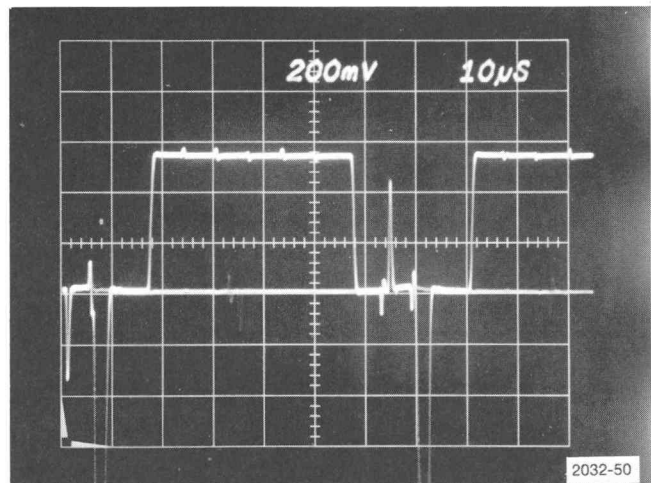
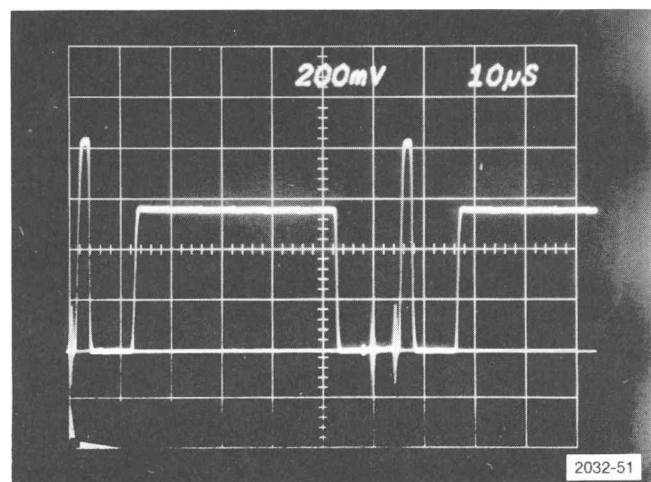

Fig. 4-20. 1420—Differential Gain setup.
Fig. 4-21. 1421, 1422—Differential Gain setup.
- c. Rotate the PHASE control for maximum amplitude of the demodulated subcarrier, as monitored on the Test Oscilloscope. See Fig. 4-20 or Fig. 4-21.